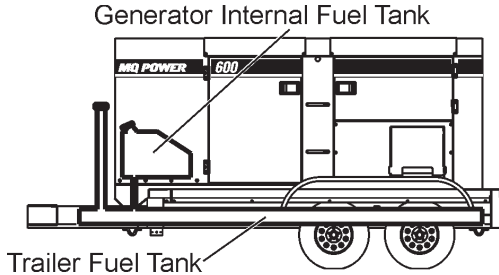
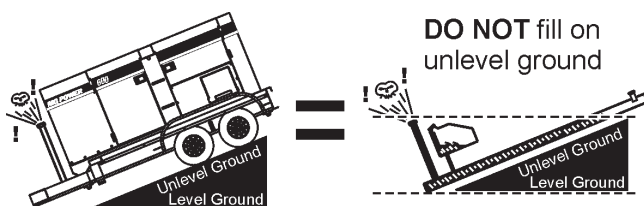

Figure 30. Double Fuel Tank System
Figure 32. Only Fill on Level Ground
The DCA600SSV series generators may (if equipped with a trailer or skid) have a **double fuel tank system** (Figure 30), which consists of an **internal** generator fuel tank, and a **trailer mounted** fuel tank. It is also possible the generator can be equipped with a **skid mounted** fuel tank (Figure 32). The skid type fuel system does not use the internal generator fuel tank.
- Level Tanks** – make sure fuel cells are level with the ground. Failure to do so will cause fuel to spill from the tank before reaching full capacity. See Figure 32.